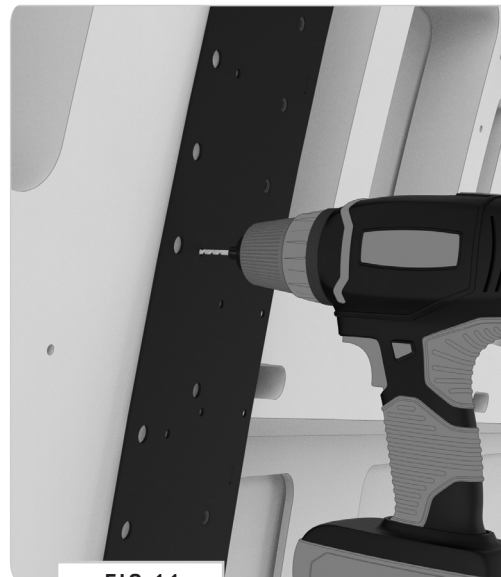
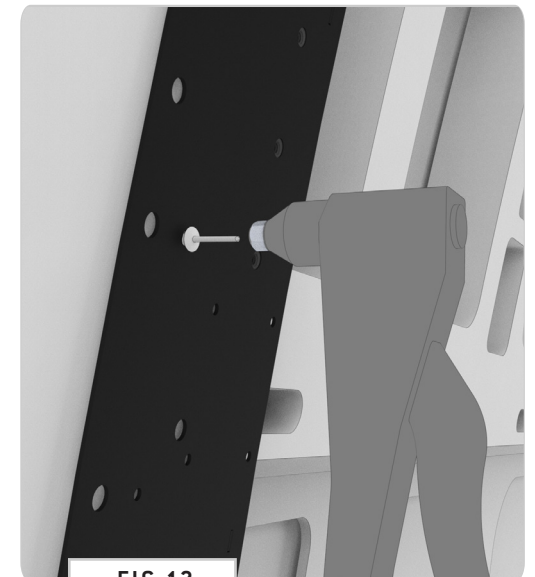

FIG 11
FIG 12
5.2 Securing the Passenger Side Rear Bracket: Double-check your measurements against your marks and proceed to secure the **Passenger Side Front Bracket** by drilling through all of the **Rivet Holes** (**FIG 11**), installing the **Rivets** as you go (**FIG 12**).